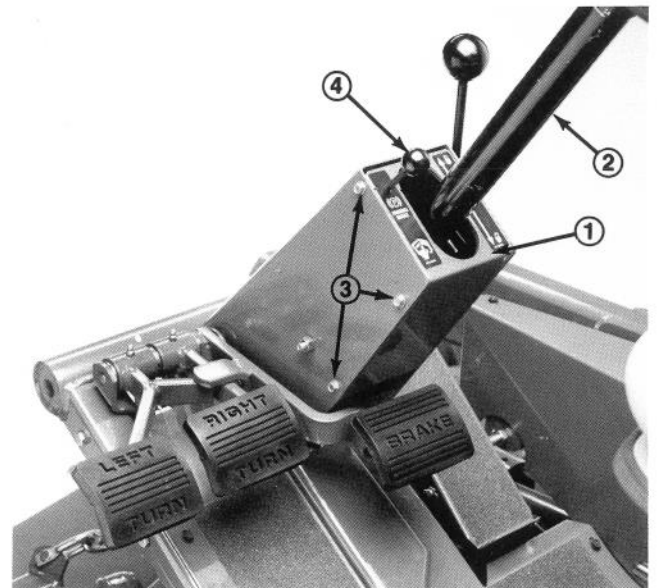

Figure 3
10. Slide steering column cover onto steering post and parking brake rod (Fig. 3). Mount the cover to inside of steering tower with six self tapping screws (1/4-20 x 5/8 in.) (Fig. 3). Install the knob on parking brake rod.